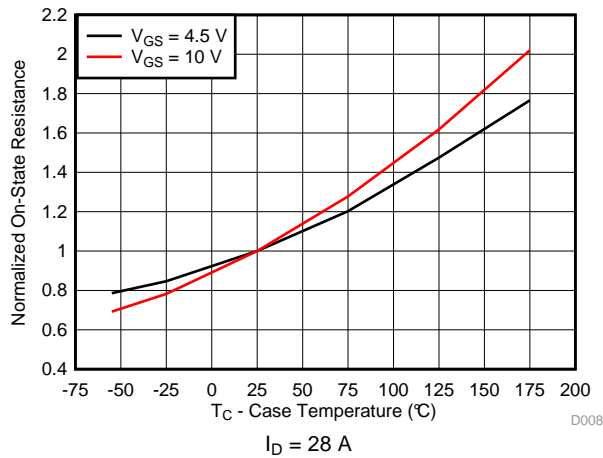

Figure 8. Normalized On-State Resistance vs Temperature
• Changed <a href="#">Figure 8</a> to extend temperature to 175°C. ....	6